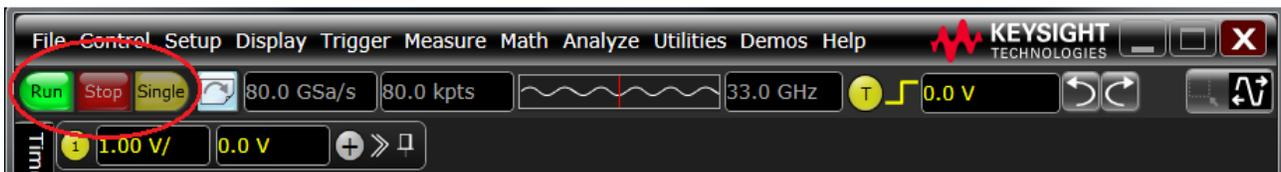

Figure 18 Manual Measurement Control buttons on the Infiniium Application
- During Automated measurements using the Keysight D9010ETHC Ethernet Compliance Test Application, the Test Application sends a **:DIGitize** command to the Oscilloscope, which invokes a special mode of data acquisition. This command (similar to repeatedly using the **SINGLE** button on the Oscilloscope as shown in Figure 18) initializes the selected channels or functions, then acquires them according to the current oscilloscope settings. When all waveforms are completely acquired, the oscilloscope is stopped. When averaging, it is necessary to know when the average count has been reached. The **:SINGLE** command (or pressing the **SINGLE** button) does not average. The Keysight D9010ETHC Ethernet Compliance Test Application triggers the **:DIGitize** command to acquire and perform the complete number of averages required for the measurements. This operation of averaging runs in the background and the Oscilloscope screen is not updated until all the averaged waveforms are acquired.
- During Manual measurements using the Keysight Infiniium Application, when you click the **Run** button on the Oscilloscope, as shown in Figure 18, you can visualize the entire process of averaging being performed on the Oscilloscope screen.